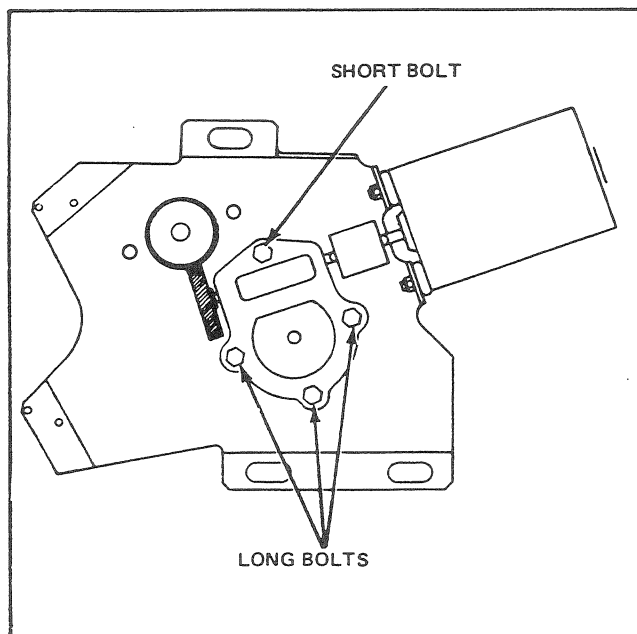

Fig. 13 – Article No. 116
14. Remove the three (3) long bolts retaining the main drive gearbox to the front of the mounting plate and remove the gearbox from the plate (See Fig. 13).
15. Remove the one (1) short bolt retaining the cover plate to the gearbox housing and remove the cover. (See Fig. 13) Note the number of shims on the spindle.